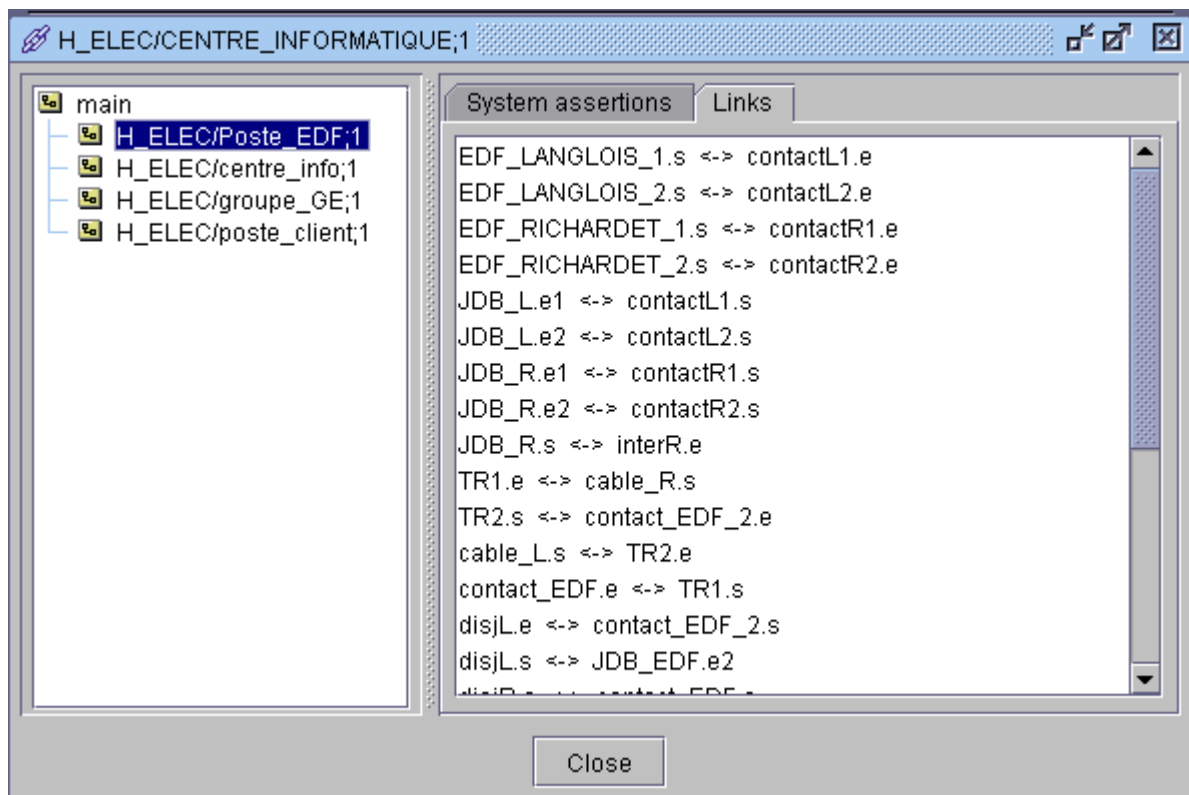

Figure 179 : System assertions – Links tab
- ♦ Click on the **Links** tab; the following window (Figure 179) displays an exhaustive list of all the links which have a graphical representation in a given hierarchical level.